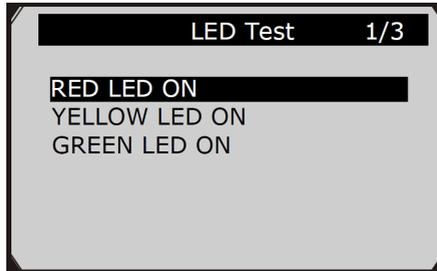

Figure 3.11.
- 2) In the **LED Test** menu, use the **UP/DOWN** scroll button to select one or more LED lamps to check. The LED should turn on or off according to the selected commands. (Figure 3.11)